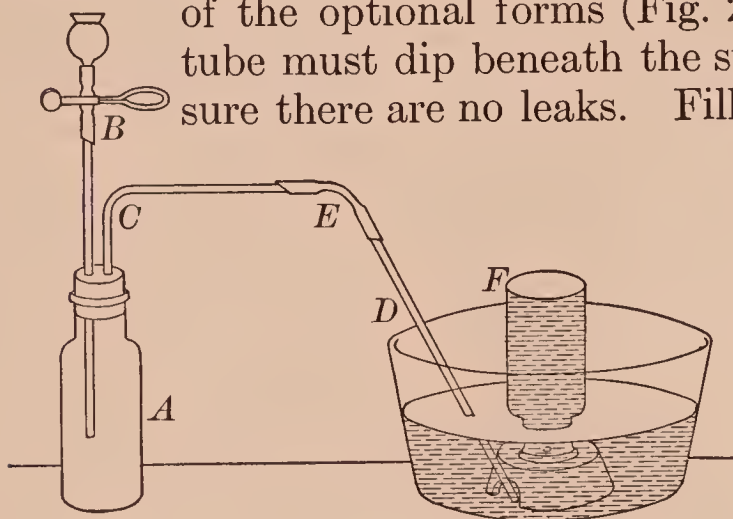
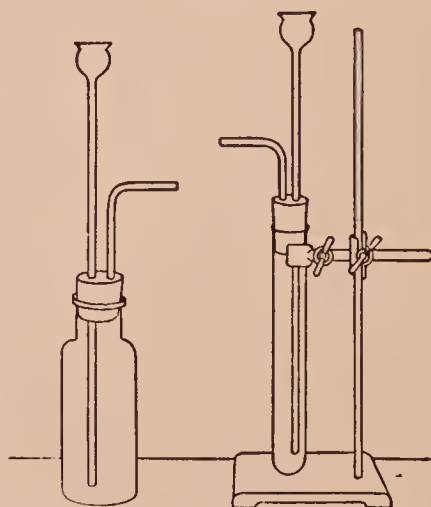

FIG. 19. — Apparatus for preparing hydrogen
FIG. 20. — Optional apparatus for hydrogen
**APPARATUS.** — As in Fig. 19. See also Fig. 20 for optional forms.
**I. Preparation.** — Slip the zinc into the bottle (or test tube) — Fig. 19. Insert the stopper with its tubes. If one of the optional forms (Fig. 20) is used, the thistle tube must dip beneath the surface of the acid. Be sure there are no leaks. Fill the pneumatic trough with water as usual, and adjust the apparatus so that the end of the delivery tube rests on the bottom of the trough under the hole in the support. Fill the bottles with water, and cover each with
the filter paper; invert one in the trough, remove the paper, and stand the inverted bottle upon the support (see Fig. 19).